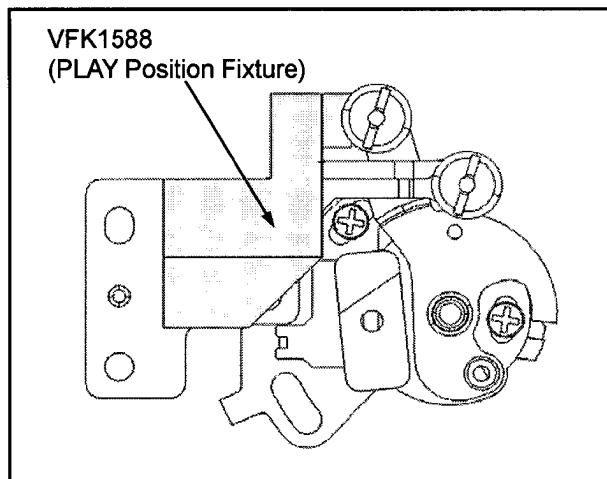

Figure 3-6-1
1. Set the VFK1588 (PLAY Position Fixture) as shown in the figure 3-6-1.